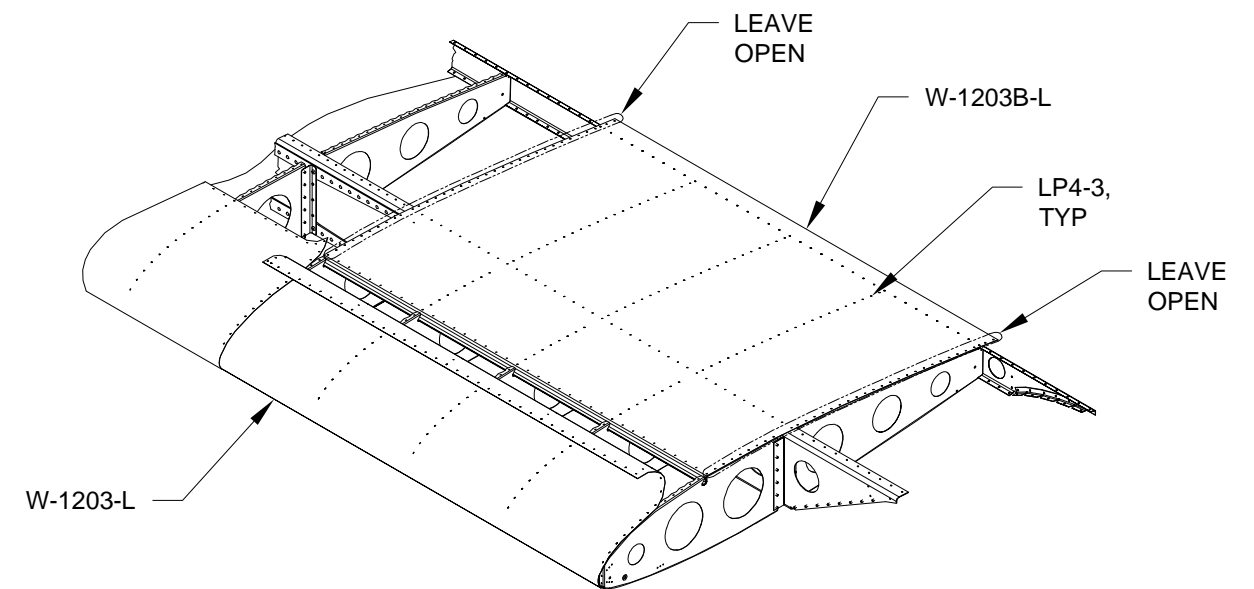

FIGURE 4: OUTBD UPPER WING SKIN INSTALLATION
Step 5: Cleco the W-1203B-L Outbd Upper Wing Skin to the wing skeleton as shown in Figure 4. Rivet the outbd upper wing skin to the skeleton leaving holes open as shown in Figure 4.